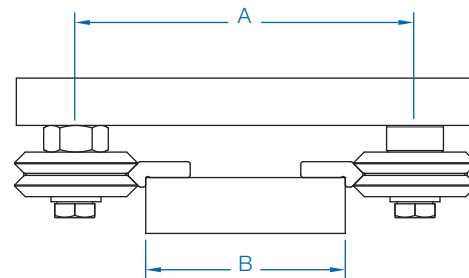

Figure 1 Inboard Mounting
- Inboard Mounting (See Figure 1):  $A = B + X$